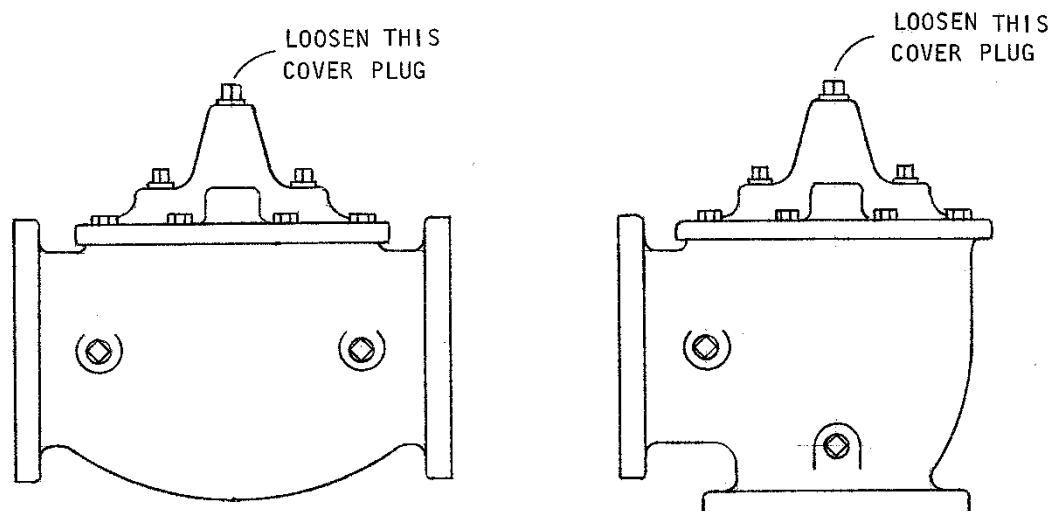

FIG. 1
2. IF THE VALVE IS MOUNTED WITH THE COVER UP, SEE FIG. 1 DRAWING 97167 AND CONTINUE WITH THIS STEP; OTHERWISE SEE STEP 3 BELOW.
- (A) CAREFULLY LOOSEN THE TOP COVER PLUG AND VENT THE AIR UNTIL WATER IS OBSERVED. DO NOT REMOVE OR BACK THE COVER PLUG ALL THE WAY OUT. WHEN A STEADY FLOW OF WATER IS OBSERVED, TIGHTEN THE COVER PLUG.